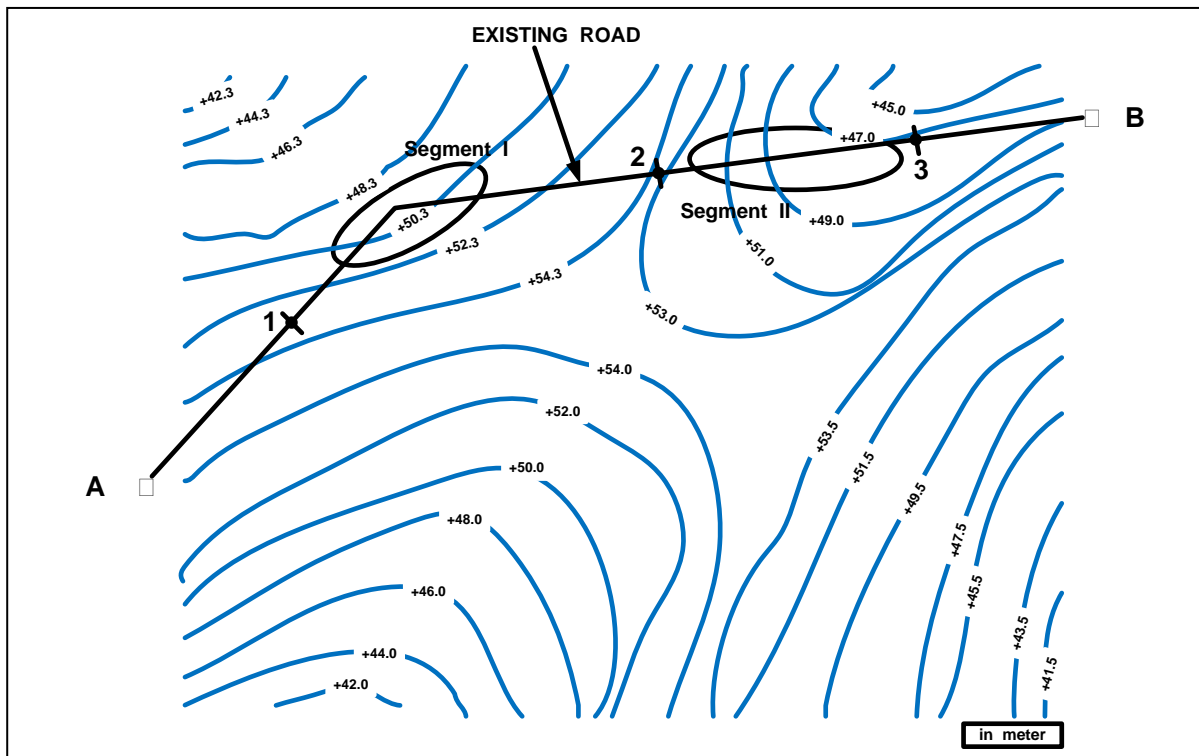

Figure 1 Contour
1. (a) Road location study and process is one of the most important part of highway design. Therefore, study on the existing design and preliminary survey need to be done before the road constructions. **Figure 1** shows an existing road location (one curve). The road connects city **A** and city **B**. Sketch road cross section **1, 2** and **3** and determines the height of the center-line of the road (center-line is at Original Ground Line). You are asked to show the area of cut and fill.
(b) **Figure 1** shows the contour and an existing road from city **A** to city **B**. You are asked to locate an alternative road location from city **A** to city **B** with 2 curves (make your own sketch/drawing). Discuss briefly why you choose the location.
- (e) The existing road location as shown in **Figure 1** is located in rather steep area and highly rainfall. The road are designed for two-way two-lane traffic, with right and left shoulder, exclusive lane for motorcycle and the allowable maximum vehicle speed is 50 km/h. Based on all information above, you are asked to consider the appropriate traffic signs and pavement markings for the area of segment I and segment II.